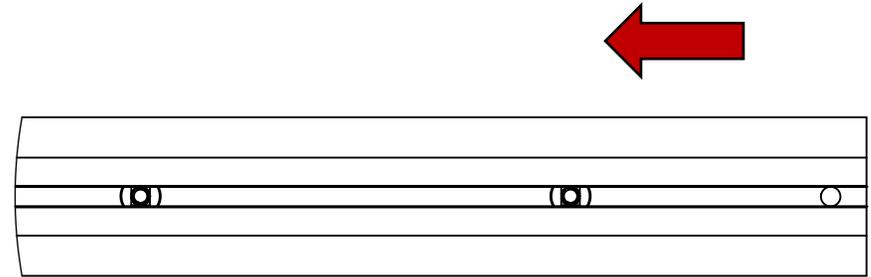

Figure 2
1. **Insert the Carriage Bolts into the slotted Crossbar.** Examine the Crossbars (Item No. 2) and notice that a slot runs down the length of each Crossbar. Insert (2) 1" Carriage Bolts (Item No. 12) into each end of each Crossbar – a total of 8 times. For the moment, arrange the Carriage Bolts about 9" apart as shown in Figure 2.